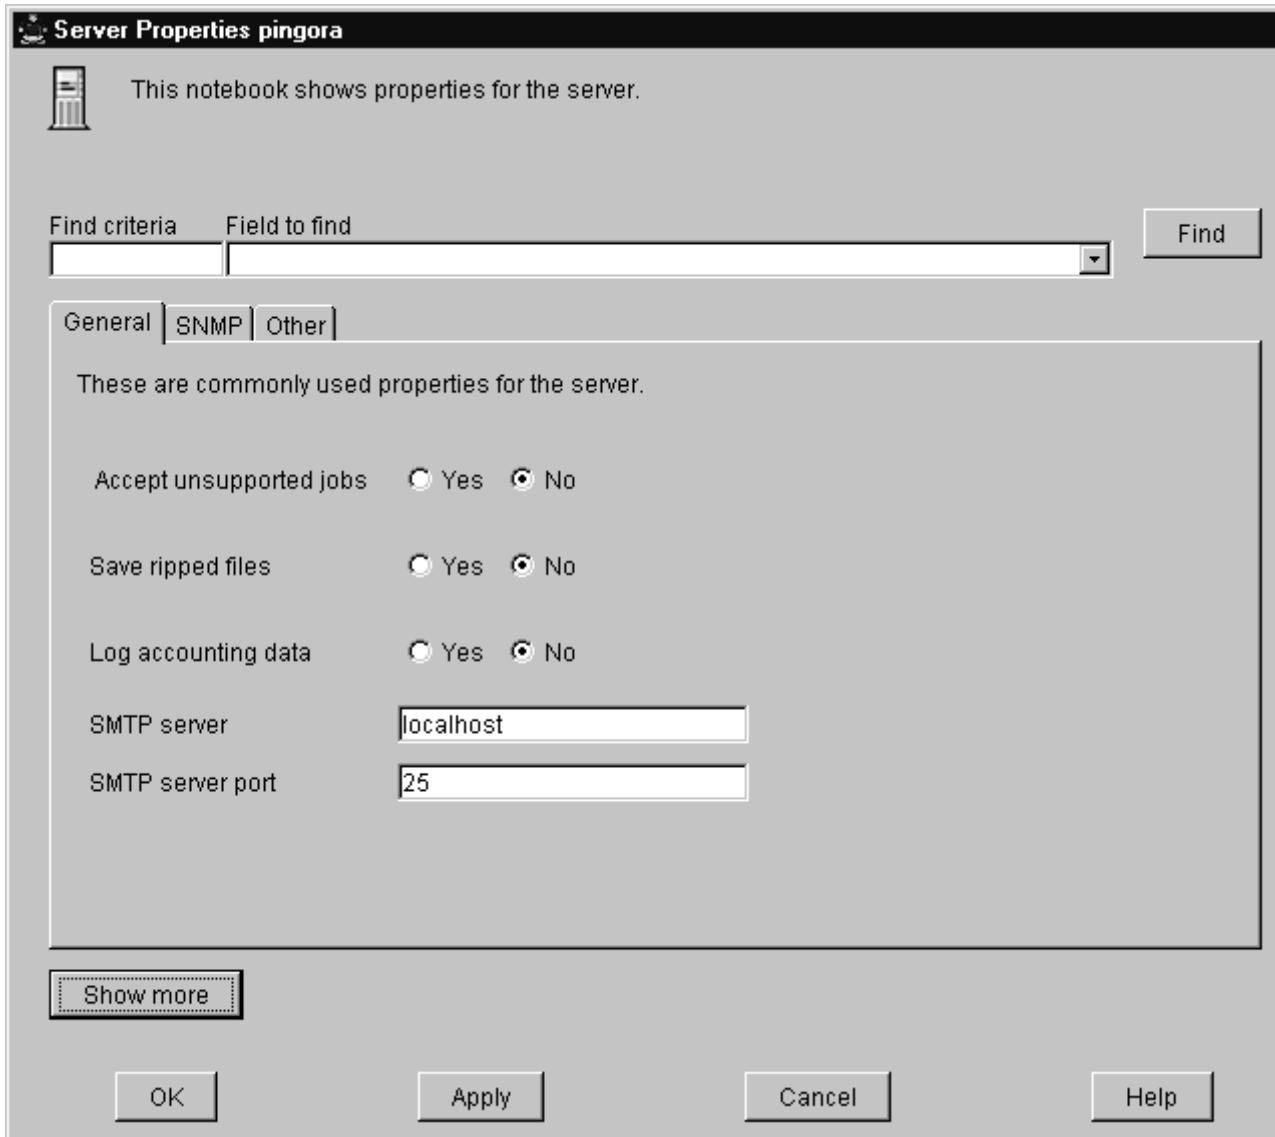

Figure 21. Server properties dialog for setting the mail server.
3. From the **Server Properties** dialog (Figure 21 on page 68), specify your installation's mail server in the **SMTP server** field and the port in the **SMTP port** field.
Note: Note that the **SMTP server port** field defaults to 25, which is the default port for the SMTP server on most AIX servers. Figure 21 on page 68 displays the default values for this panel.